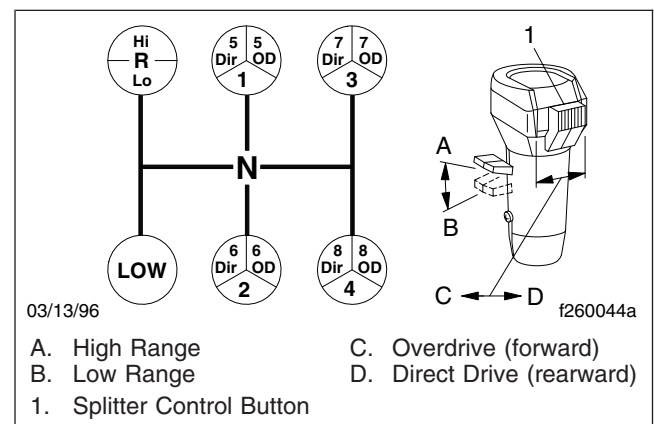
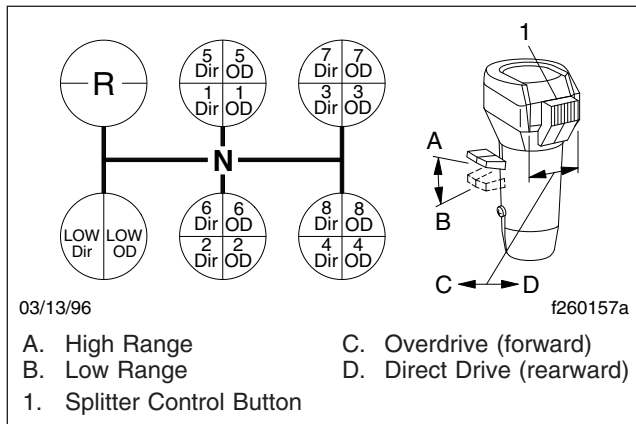

Fig. 8.7, Eaton Fuller 13-Speed Transmission Shift Pattern
Fig. 8.8, Eaton Fuller 18-Speed Transmission Shift Pattern
Eaton Fuller 13-speed transmissions have thirteen forward speeds and two reverse speeds. Each transmission consists of a 5-speed front section, and a 3-speed auxiliary section. The auxiliary section contains low- and high-range ratios, plus an overdrive splitter gear. See **Fig. 8.7** for the shift pattern.
2. Position the range preselection lever down, into low range. See Fig. 8.7 or Fig. 8.8.
3. Make sure the splitter control button is in the direct (rearward) position. See Fig. 8.7 or Fig. 8.8.
To shift from low direct to low overdrive, move the splitter control button (Fig. 8.8) into the overdrive (forward) position, then immediately release the accelerator. Press and release the clutch pedal. After releasing the clutch, accelerate again.
Shift upward from low to 1st gear, 2nd, etc. until 4th gear, double-clutching between shifts, and accelerating to 80 percent of engine governed speed. See Fig. 8.7.
Shift upward from low overdrive to 1st direct by first moving the splitter control button into the direct (rearward) position (Fig. 8.8). Move the shift lever, double-clutching, to the 1st gear position.
To shift from 5th direct to 5th overdrive, move the splitter control button (Fig. 8.7) into the overdrive (forward) position, then immediately release the accelerator. Press and release the clutch pedal. After releasing the clutch, accelerate again.
To shift from 5th direct to 5th overdrive, move the splitter control button (Fig. 8.8) into the overdrive (forward) position, then immediately release the accelerator. Press and release the clutch pedal. After releasing the clutch, accelerate again.